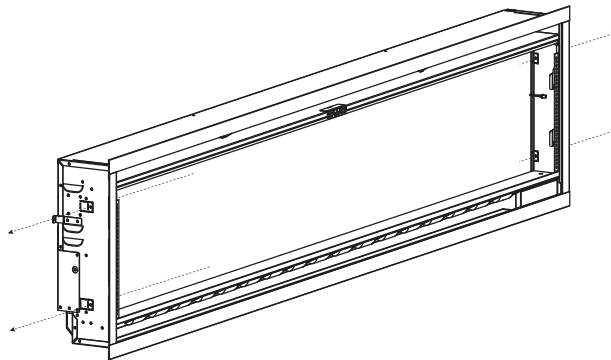

Fig. 4-9
8. Use 4 screws to secure the appliance into the wall (**Fig. 4-9**). Do not overtighten screws.